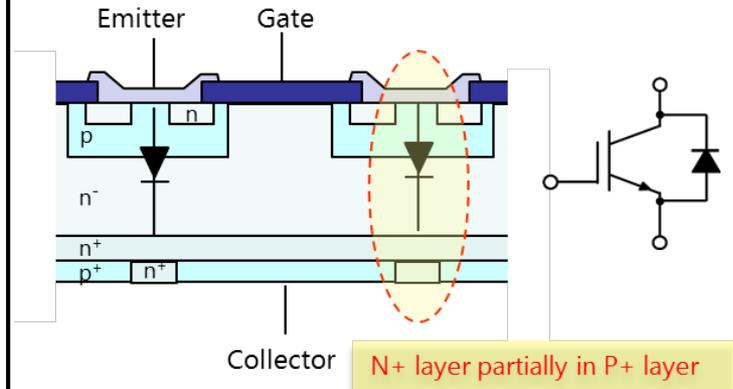

Fig. 3-16(a) Structure of RC-IGBT
- The structure of the RC-IGBT is shown in Figure 3-16 (a). A diode is formed by making a part of the p-type layer, which is the collector of the IGBT, n-type. This diode has the same function as FWD * 1, which is generally inserted in the IGBT.